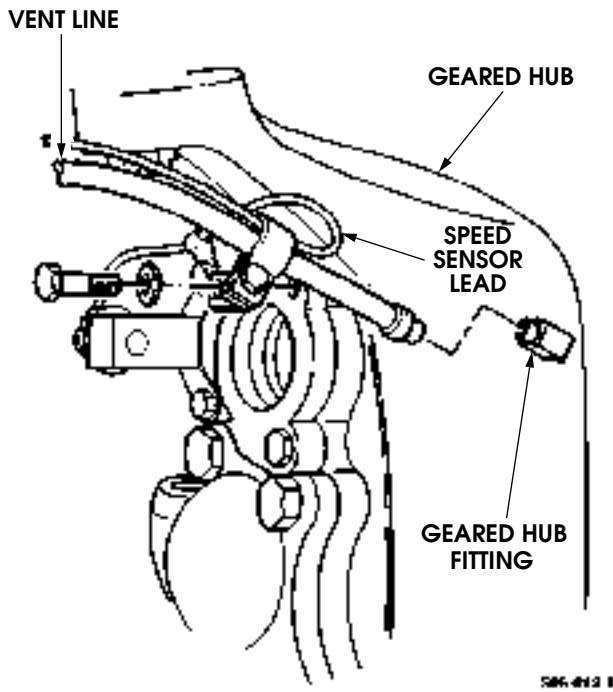

Figure 9-17: Vent Line
9. Connect vent line to geared hub fitting (Figure 9-17).